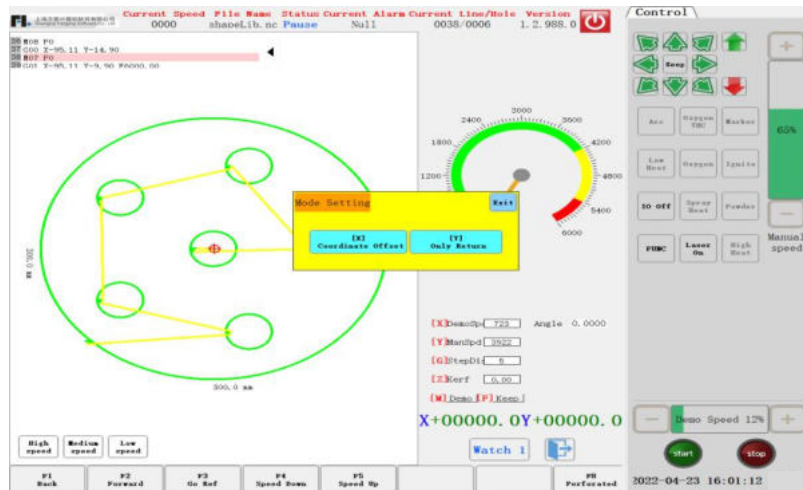

Figure 6.22 Method Selection
- After returning to the main interface, press space at the main interface and switch to the cutting interface. At the cutting interface, press [F1] / [F2], and the dialog box shown in Figure 6.22 will pop up.